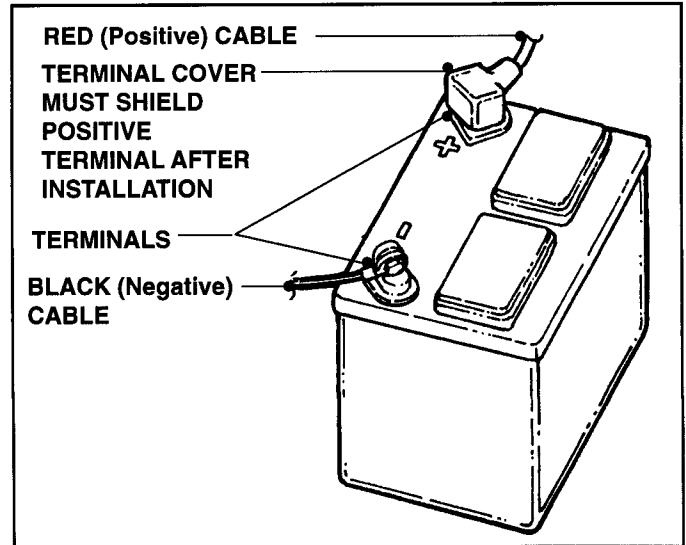

FIGURE 3.7
4. With Cell Caps removed, connect Battery Charger to Battery Terminals. RED to Positive (+) Terminals and BLACK to Negative (-) Terminal. See Figure 3.7.